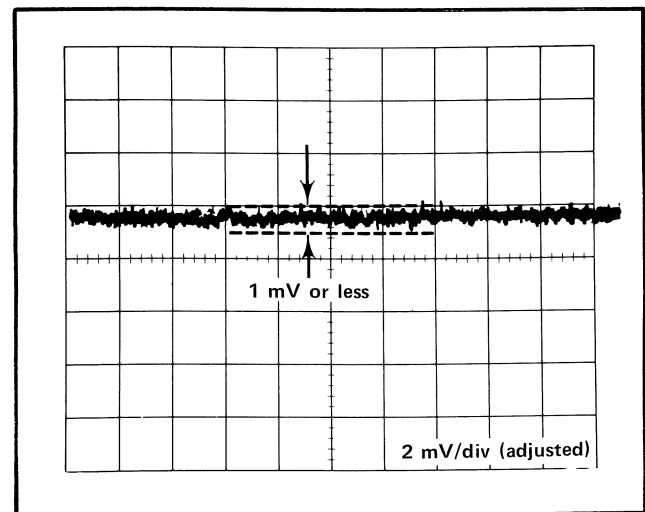

Fig. 5-8. Display noise check (Step 18).
i. CHECK that the noise (90% of the trace width) is not greater than 1 mV (0.5 div). See Fig. 5-8.